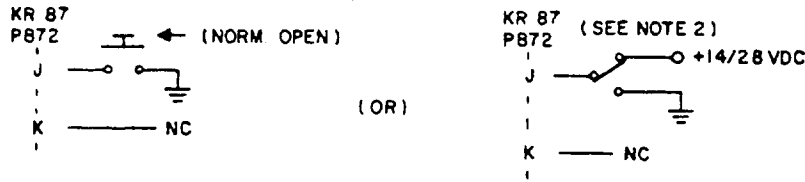

FIGURE 2-3 EXTERNAL STOP AND HOLD WIRING USING NORMALLY OPEN SWITCH
- (1) A ground on pin J will "stop and hold" the flight timer. Opening the switch again will cause the timer to continue until the switch is closed again. This can be wired in a number of ways, examples of which are shown in **Figure 2-3** below. If desired, a pressure sensor (P/N 071-01247-0000 or equivalent) can be used as the flight timer "stop and hold" switch. See **Figure 2-25** for further information.